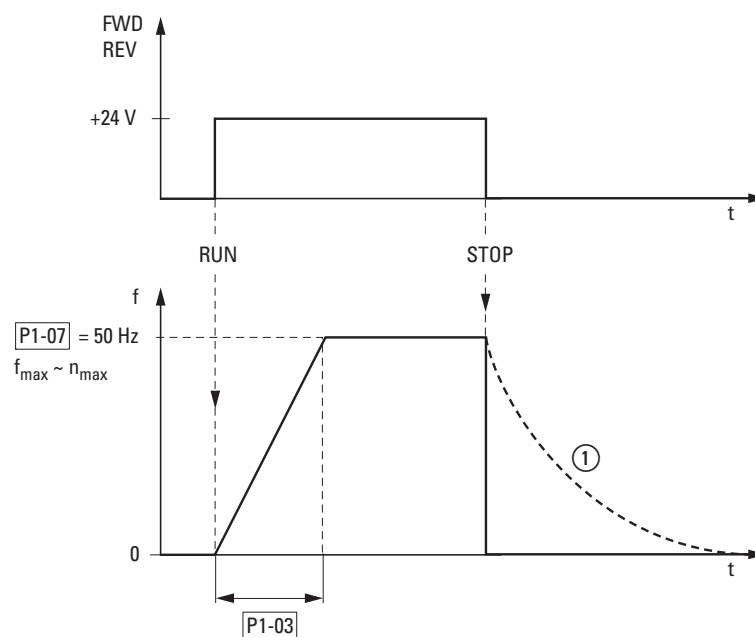

Figure 95: Start-Stop command with maximum reference voltage
Figure95 shows a good example of the process, if the release signal (FWD/REV) is switched on and the maximum setpoint voltage reference voltage (+10 V) is applied. The speed of the motor follows the output frequency depending on the load and moment of inertia (slip), from zero to n_{max} .
If the release signal (FWD, REV) is switched off during operation, the inverter is blocked immediately (STOP). The motor comes to an uncontrolled stop (see ① in Figure95).